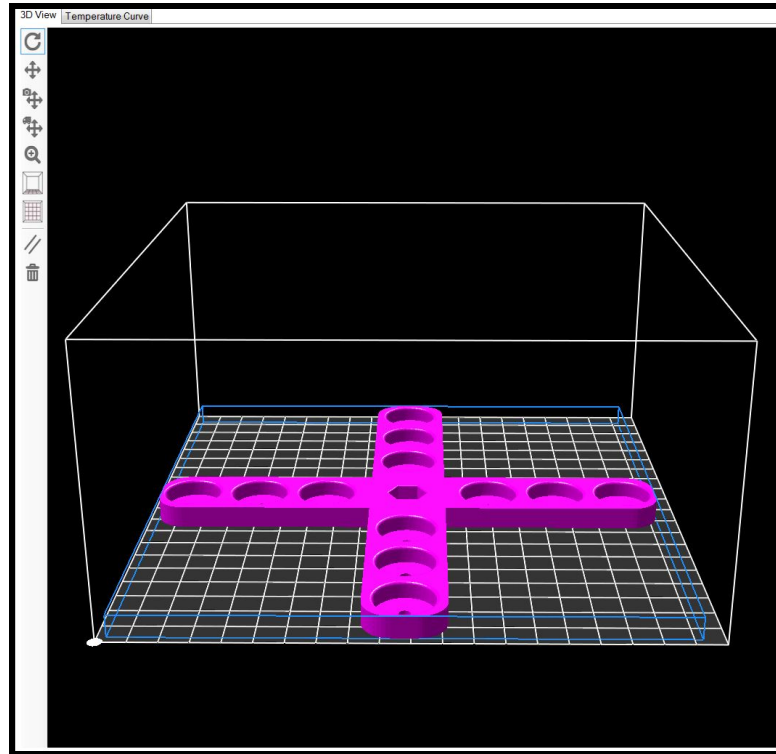

Figure 3.8: Motor Load in 3D Viewer
50. Open Repetier Host. Load the **Motor Load.stl** file from the website into the Repetier Host program. Figure 3.8 shows the part as it should appear in the 3D viewer.